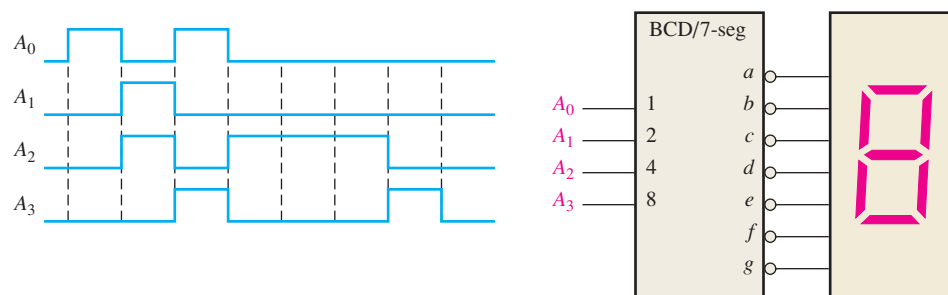

FIGURE 6-78
22. A 7-segment decoder/driver drives the display in Figure 6-78. If the waveforms are applied as indicated, determine the sequence of digits that appears on the display.